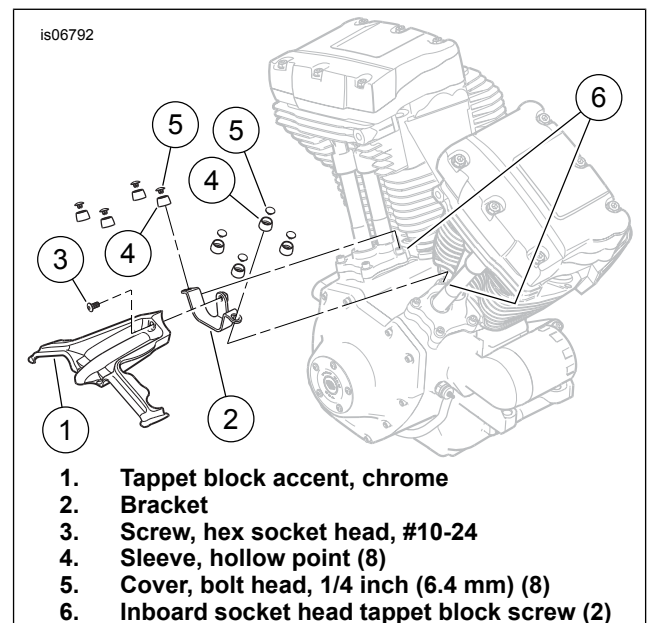

Figure 1. Twin Cam Tappet Block Accent Installation
1. See Figure 1. Remove the two inboard socket head lifter cover (tappet block) screws (6) and set aside.
2. Position the bracket (2) in the area between the engine cylinders as shown, aligning the two slots in the bracket with the threaded holes in the lifter cover. Loosely install the screws (6) through the slots and into the lifter cover.
5. On the underside of the chrome accent (1), use a fingernail to rub the liners of the adhesive backing to activate the adhesive. Peel all the liners from the adhesive backing of the chrome accent.
6. Carefully position the accent to the crankcase and lifter cover, and insert the #10-24 screw (3) through the accent and into the threaded hole in the bracket. Do not fully tighten.
9. Tighten the two inboard socket head tappet block screws (6) to 10.2–13.6 N·m (90–120 in-lbs).
10. Push a hollow point sleeve (4) fully down over the head of each of the eight tappet block screws. Push a decorative bolt head cover (5) into the hex socket of each screw.